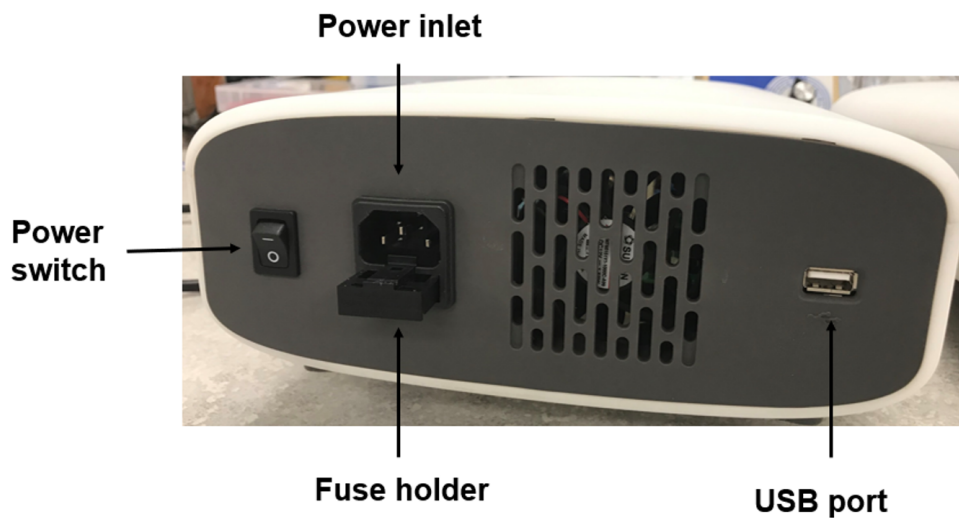

Figure 16 Rearview of PowerEase™ Touch 350W Power Supply
3. Pull the fuse holder out of the compartment and inspect the fuse. If the fuse is burned or there is a break in the fuse element, replace the fuse with an identical type of fuse (8 A/250 V) as provided in the fuse holder (see Figure 16).